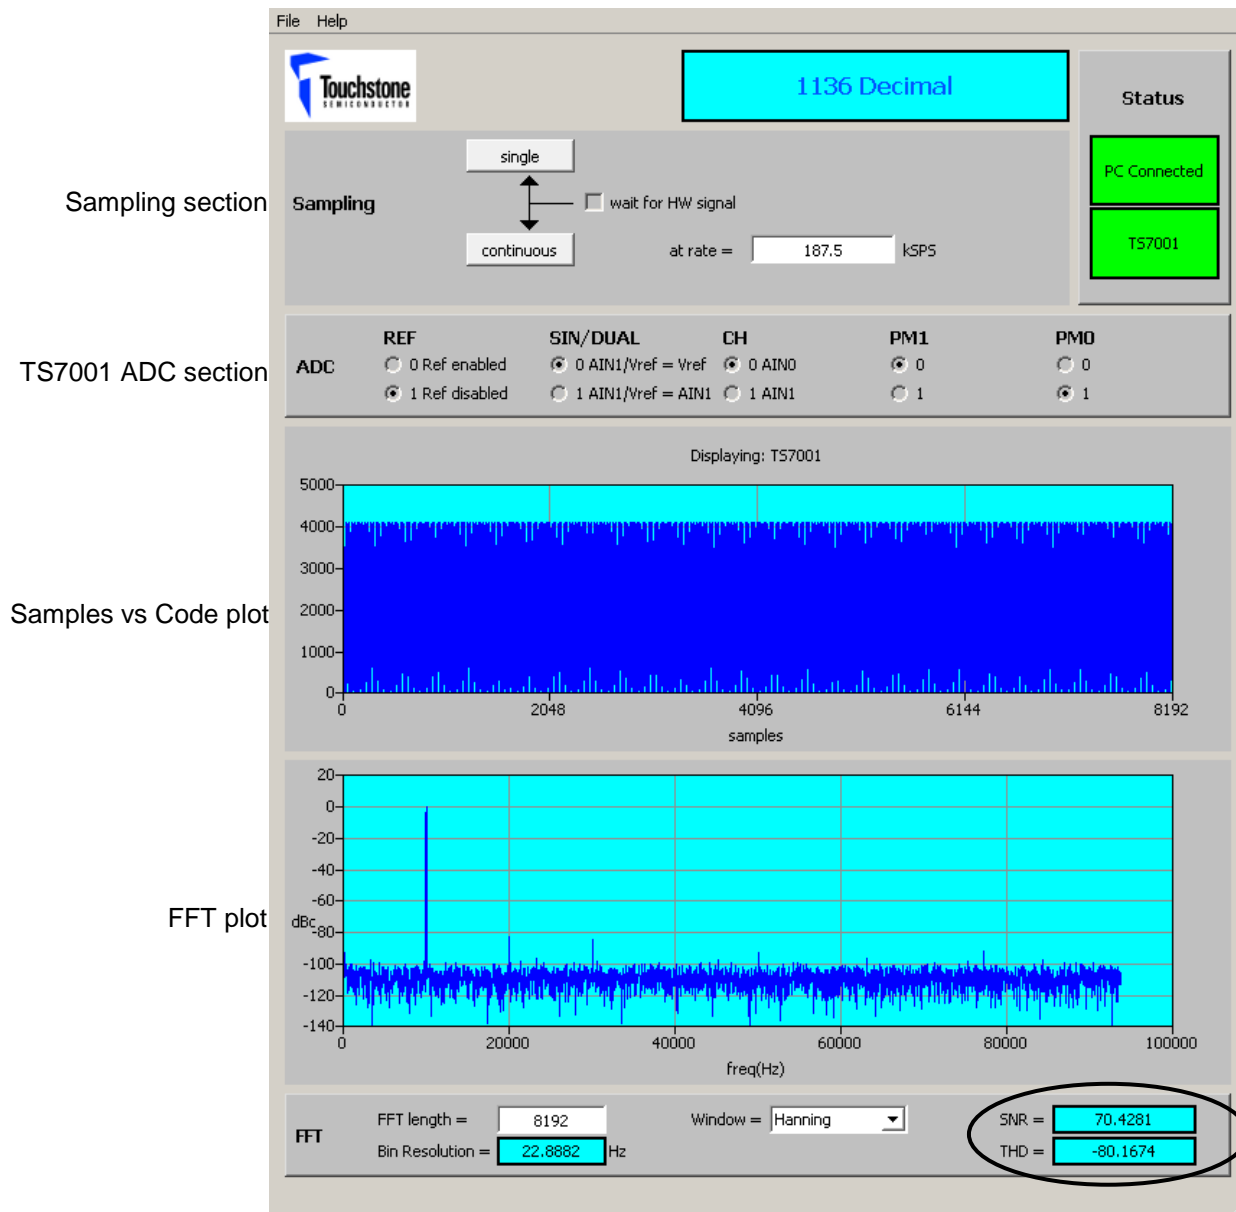

Figure 4. TS7001 Response with GUI
- 7) In the TS7001 ADC section, set PM0 = 1 and REF = 1. In the sampling section of the GUI, enter 187.5ksps. Use the default FFT length of 8192. Refer to Figure 4 and Table 2 and Table 3.
- 8) Turn on the signal generator. On the GUI screen, click on “continuous” in the sampling section, and monitor the results on the screen. The top plot shows a samples vs code plot and the bottom plot is an FFT plot. The SNR and THD values should be approximately 71dB and -80dB, respectively. Please refer to Figure 4 for an example of what the results should look like. In this case, the SNR and THD values are 70dB and -80dB, respectively.
- 9) As shown in the TS7001 ADC section of the GUI, the TS7001 mode of operation can be selected. Please refer to Figure 4 and Table 3.